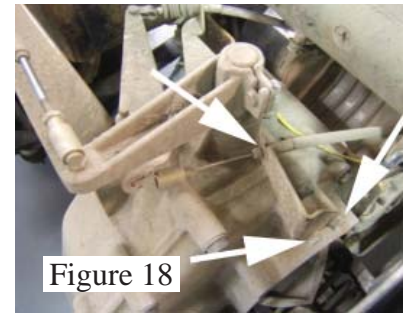

Figure 18
14. Disconnect the throttle cable from the governor linkage by removing the e-clip holding the throttle cable to the mount bracket. Remove throttle cable and remove throttle cable bracket from transaxle. (See Figure 18).